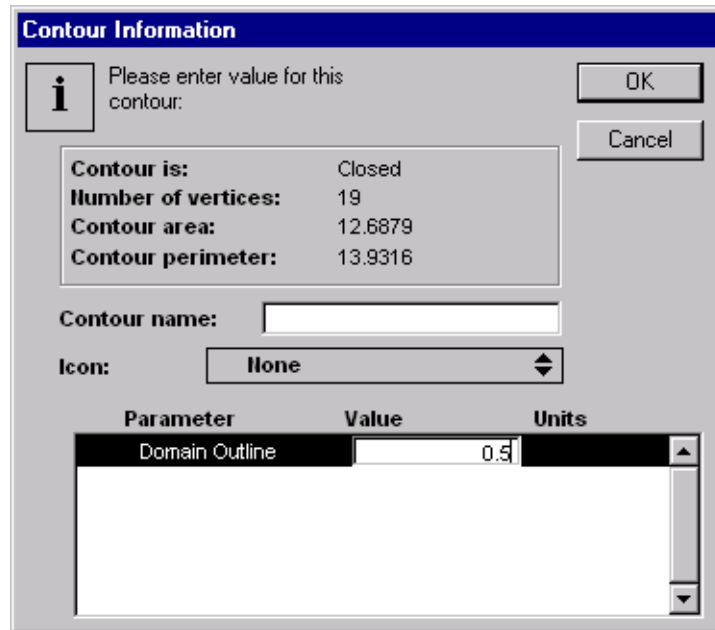

Figure 26. Contour Information Dialog
2. To draw a domain-outline contour manually, first click on the closed-contour drawing tool. Then to specify the contour's position and shape, click in the white work area of the window in a sequence of positions to form a nearly-closed contour. To close the contour, double-click on the last position desired, then move the mouse away from the last point. The contour automatically closes and the *Contour Information dialog* appears (Figure 26).
3. This dialog is used to specify the size of quadrilateral elements. An **element_size** must be specified that refers to the desired typical size of an element side (in the distance units already specified for the project). This number is typed into the data box to the right of the word, "**element_size**" and just below the label, "**Value**". In Figure 26, an **element_size** value of 0.5 is specified. Click **OK** to exit the dialog box, and draw additional contours if desired.